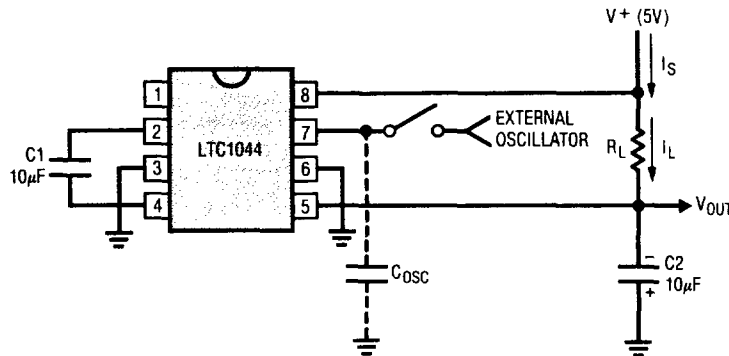

Figure 1
## ELECTRICAL CHARACTERISTICS $V^+ = 5V, T_A = 25^\circ C$ , Test Circuit Figure 1, unless otherwise specified.
**TYPICAL PERFORMANCE CHARACTERISTICS** (Using Test Circuit Shown in Figure 1)